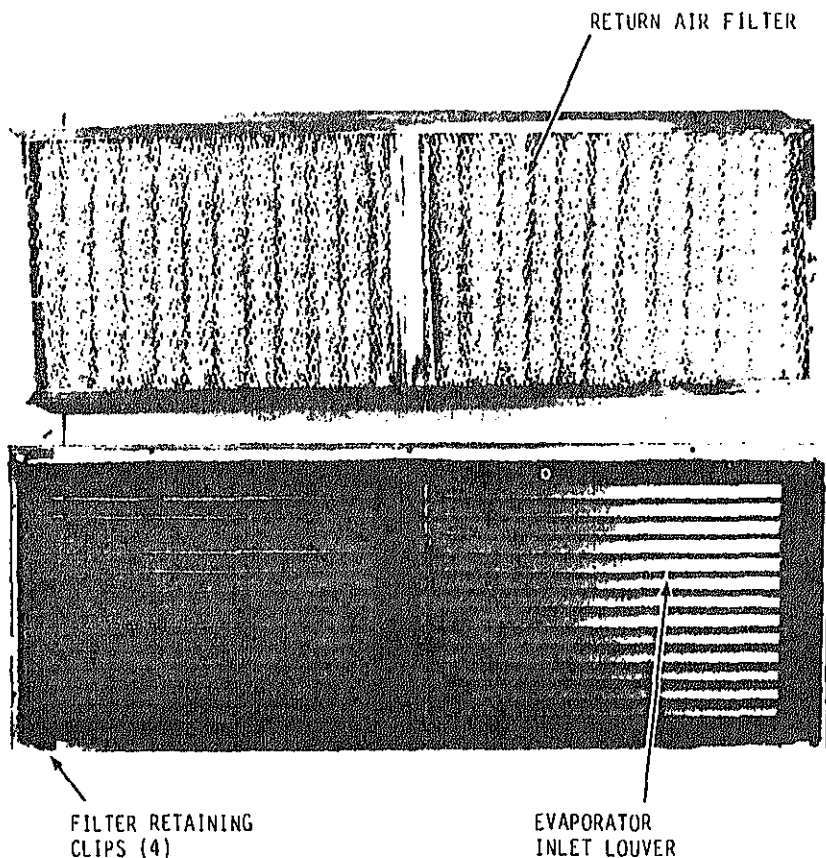

Figure 4-2. Return air filter
(2) Refer to figure 4-2 and remove the return air filter from the four outer retaining clips.
(1) Refer to figure 4-2 and slide the air filter into four filter retaining clips.